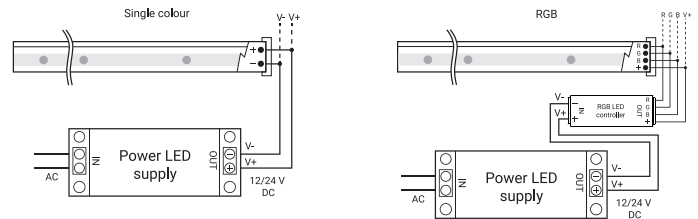

Fig.3. Diagram of proper connection of the tape to the power supply.
- Connect the strip to the power supply according to the attached diagram (Fig.3).